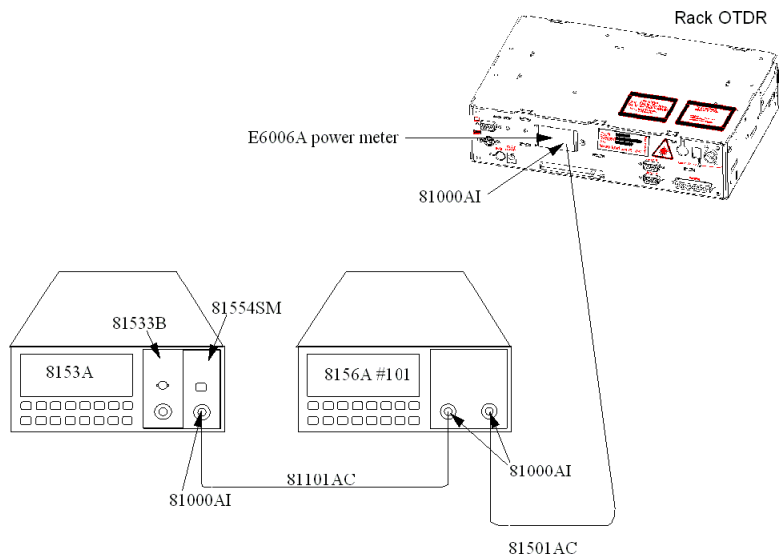

Figure D-14
- 9 Connect the attenuator output cable to the DUT, as shown in Figure D-14.
- 12 Connect the attenuator output cable to the DUT, as shown in Figure D-14.